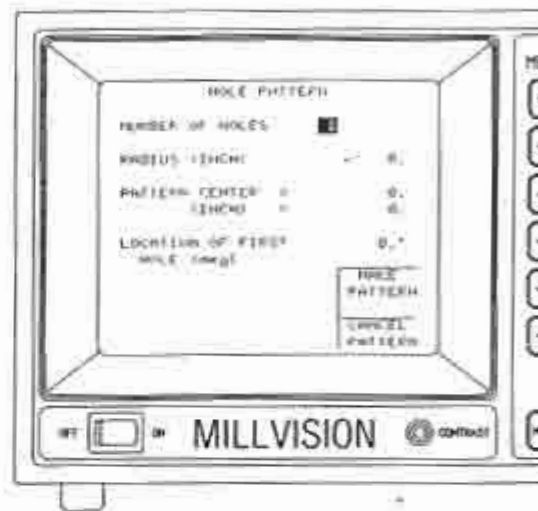

Figure 38. Hole Pattern Information Screen.
- 1) Press the **HOLE PTRN** key. A hole pattern information screen (Figure 38) will appear displaying information from the last hole pattern operation. If none of this information needs to be changed, press the "MAKE PATTERN" menu key. If new values need to be entered, continue.